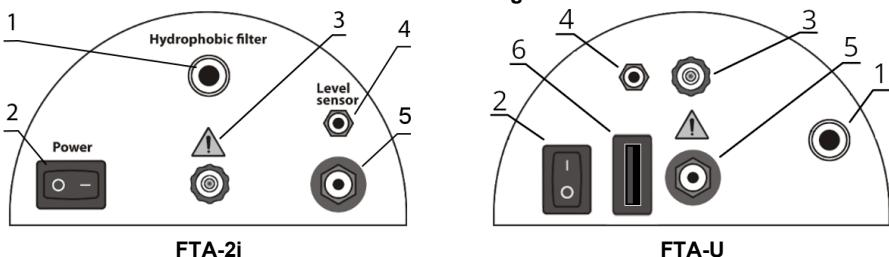

Figure 7. FTA-2i and FTA-U rear panels.
4.3.3. **Optional FS-1 foot switch installation for FTA-U.** Position the switch on a secure surface. Connect the cable to the rear of the unit (fig. 7/6).